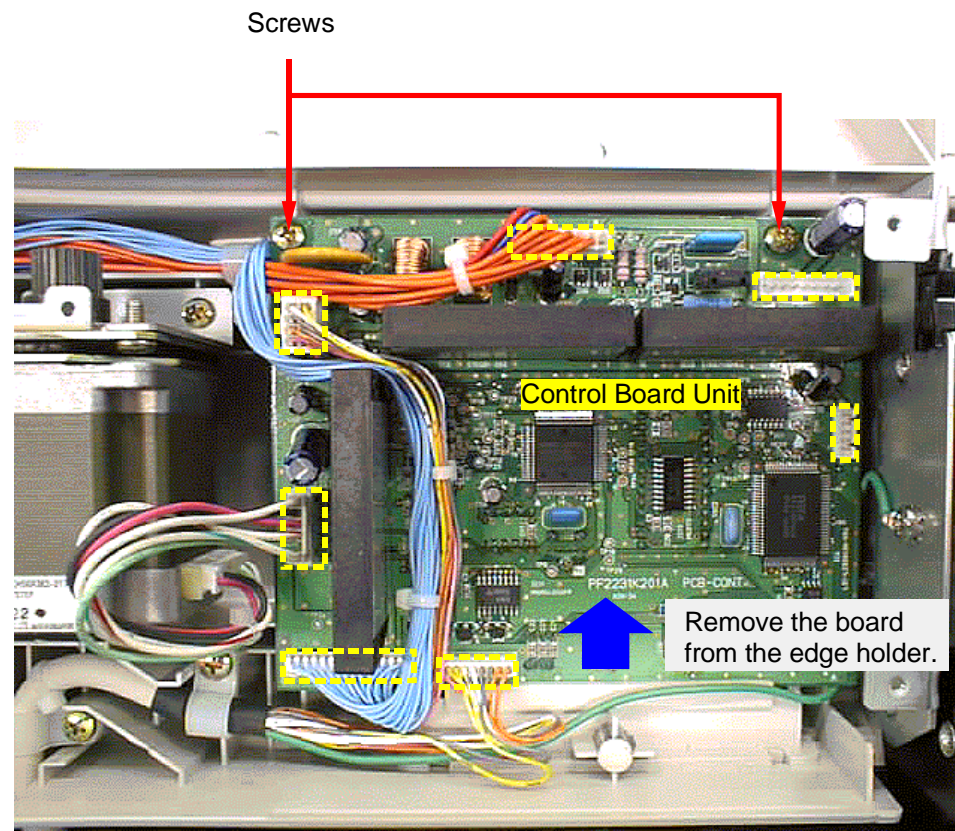

Figure 4-4. Control Board Unit Removal
2. Disconnect all connector cables from the connectors on the control board. (See Figure 4-4 for connector location indicated with the yellow broken lines.)